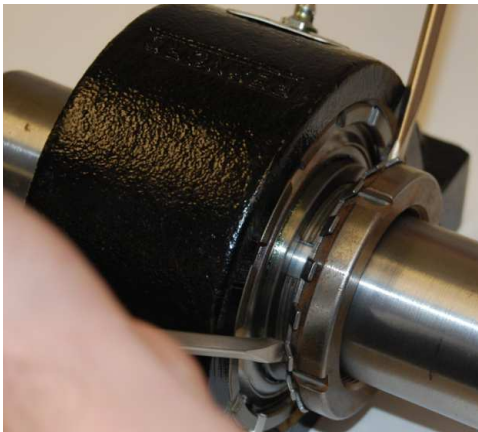

Figure 2) Zero Shaft Fit – Pry against housing to draw adapter sleeve through bearing. Sleeve should not be protruding out the backside of the inner ring.
**Zero Shaft Fit**-Take a large flat blade screw driver to wedge between the bearing's face and lockwasher. Use the screwdriver to draw the bearing's sleeve through the inner ring until you achieve a snug fit and then finger tighten the locknut (See Figure 2 below). Tighten locknut ½ to ¾ rotations and bend one of the lock washer tangs into one of the slots on the outside diameter of locknut.